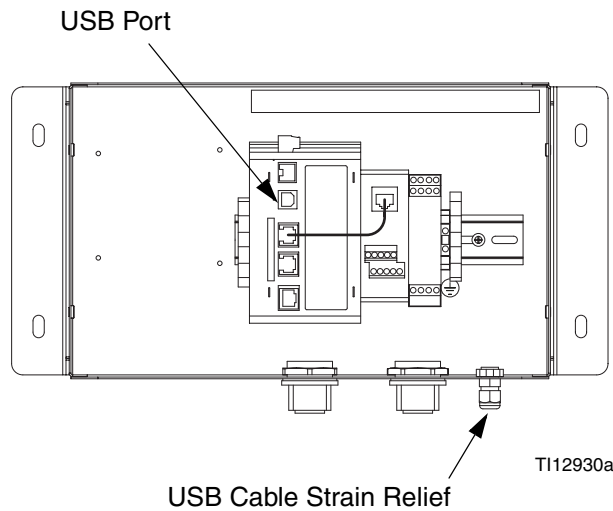

FIG. 12: Gateway Module USB Port
1. Connect the USB cable (23, supplied) between the USB port on the Gateway module and a USB port on your PC. See FIG. 12.